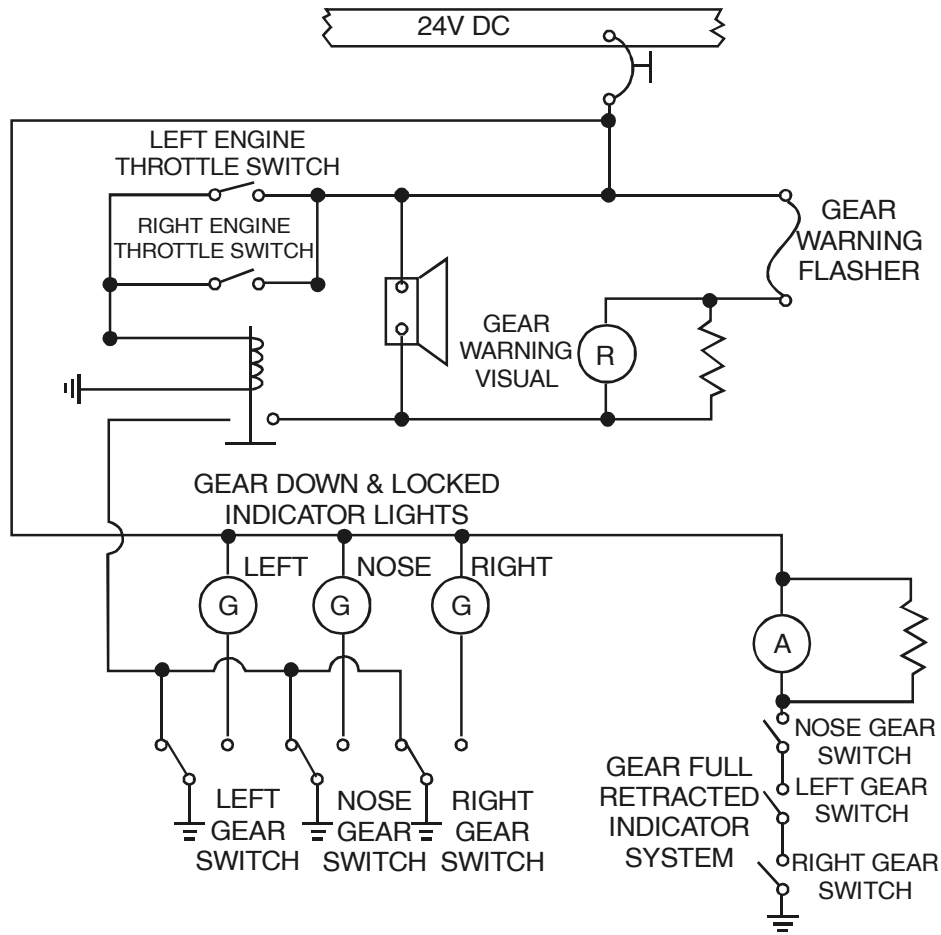

Figure 9.35.
21. (Refer to figure 9.35) What will illuminate the amber indicator light?
22. (Refer to figure 9.35) What is the minimum condition that will cause the landing gear warning horn to indicate an unsafe condition?